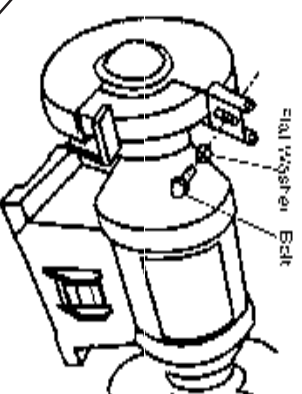

Fig. 2
2. Assemble the Spark Arrester brackets onto the wheel guards, using the screws and washers provided, in the manner shown in Fig. 2.